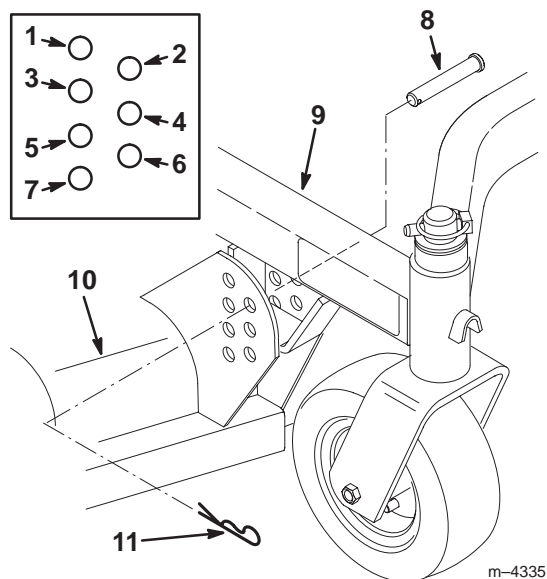

Figure 5
2. Mount the cutting deck to the carrier frame with 4 clevis pins and hairpin cotters (Fig. 5).